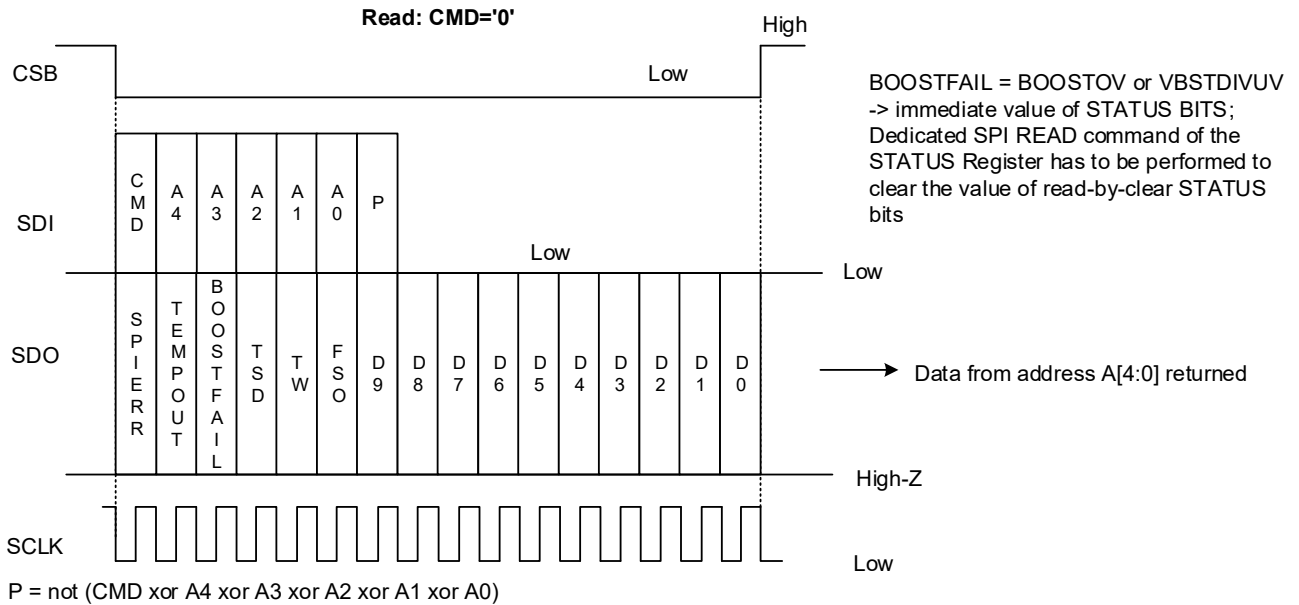

Figure 17. SPI Read Frame
- If the previous command was a read, the response frame summarizes the address used and an overall diagnostic check (copy of the main detected errors, see Figure 16 and Figure 17 for details).